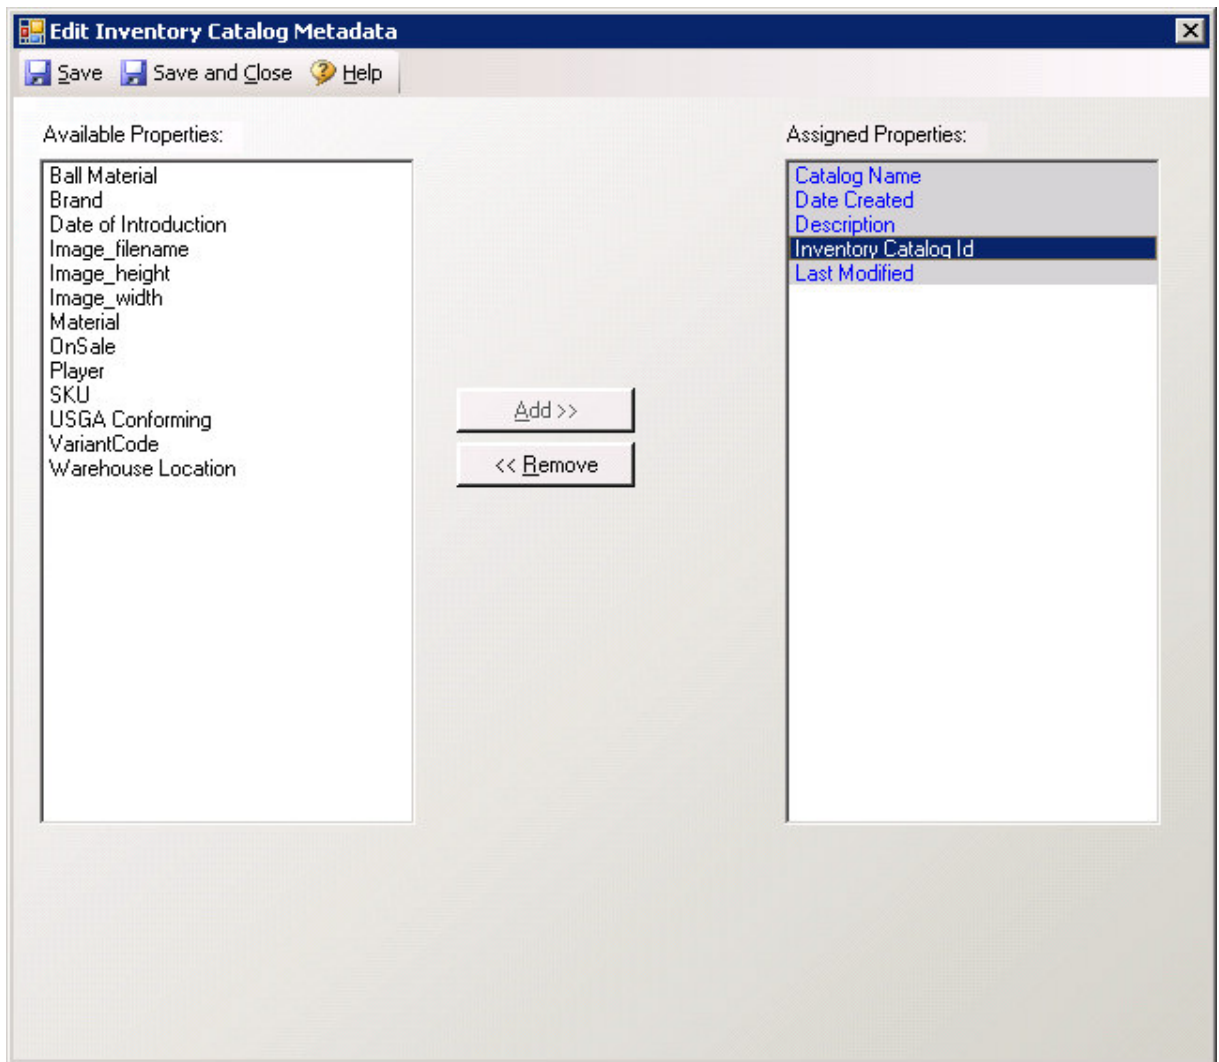

Figure 4-5
3. Select “Inventory Catalog Id” from the Available Properties list, and click the Add button. This will assign the property to the assigned properties list (see Figure 4-5).